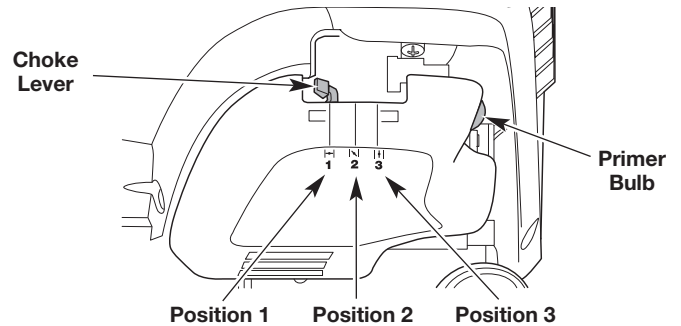

Fig. 9
3. Slowly press and release the primer bulb **10 times** (Fig. 9).
4. Move the choke lever to **Position 1** (Fig. 9).
7. Continue to squeeze the throttle control. Move the choke lever to **Position 2** (Fig. 9).
10. Continue to squeeze the throttle control. Move the choke lever to **Position 3** (Fig. 9) and continue warming the engine for an additional 60 seconds. The unit may be used during this time.
2. Press and hold the On/Off switch in the OFF (0) position until the engine comes to a complete stop (Fig. 9).
8. Continue to squeeze the throttle control. Move the choke lever to **Position 2** (Fig. 9).
12. Continue to squeeze the throttle control. Move the choke lever to **Position 3** (Fig. 9) and continue warming the engine for an additional 60 seconds. The unit may be used during this time.